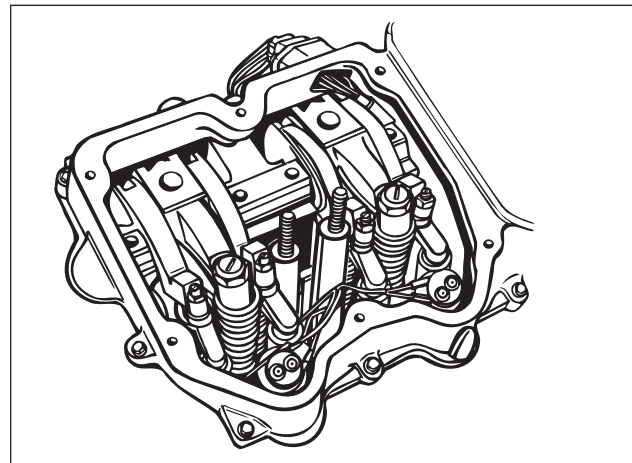

FIG. 6
4. Position the support tubes over the studs (see Fig. 6).